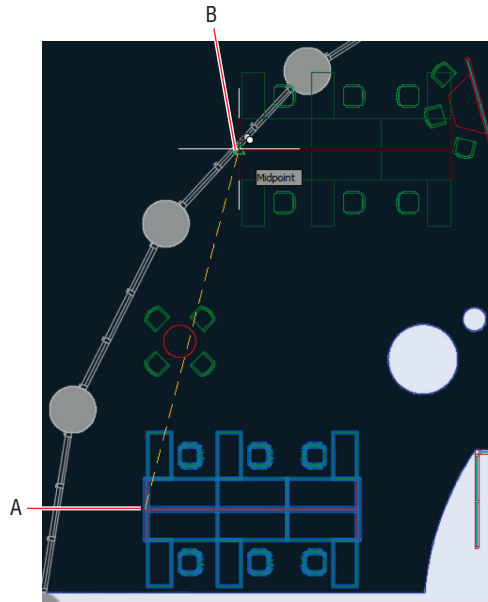

FIGURE 4.16 Copying a furniture group to a new center of rotation
4. Zoom out and focus on the upper-left quadrant of the building. Type CO (for Copy) and press Enter. Select the furniture group shown in Figure 4.16 and press Enter. Select midpoint A as the base point, and select midpoint B as the second point. Press Esc to end the command.